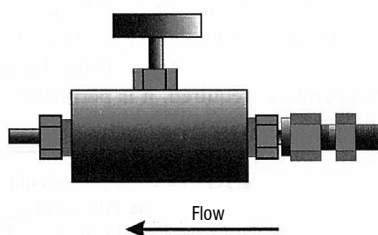

Figure 10.1
1. Place the Jar in a vise or on a rack. Rotate the Jar until one Fill Plug (7) is straight up. Remove the plug and install the Fluid Bleed Valve Assembly (Part No. 155400). Insure all the valve component fittings are tight. Close the valve. Refer to Figure 10.1.